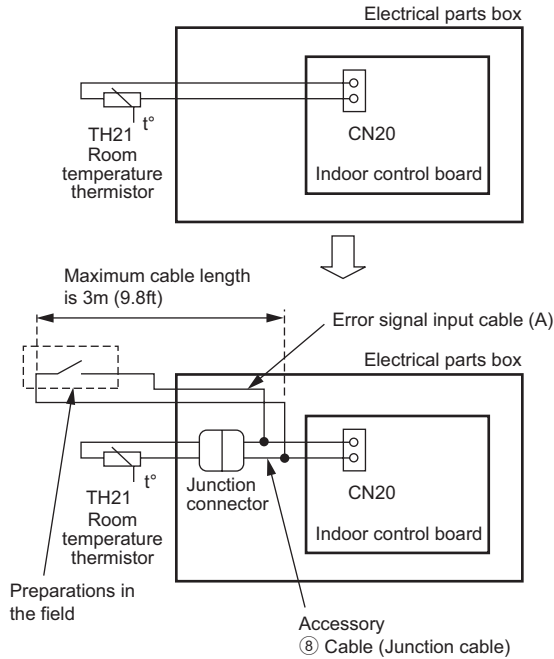

Fig. 5-6
- ① Error signal input method (Fig. 5-6)
- Remove the room temperature thermistor TH21 from the indoor control board, and connect the cable ⑧ (junction cable) supplied with the product.
- Connect an error signal (non-voltage a contact input) to the error signal input cable (A).
- ② Significance of error signal